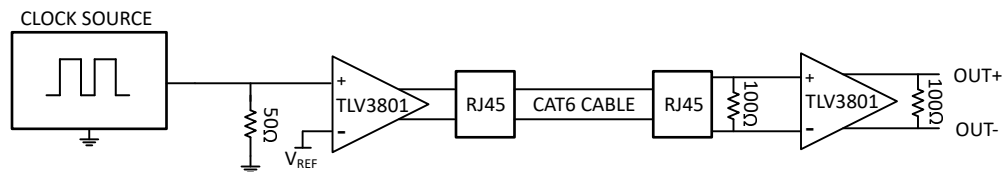

Figure 8-5. LVDS Clock Transceiver
The Figure 8-5 shows a logic clock source being terminated and driven with the TLV3802/TLV3811(C) across a CAT6 Cable to receive an equivalent LVDS clock signal at the receiver end.